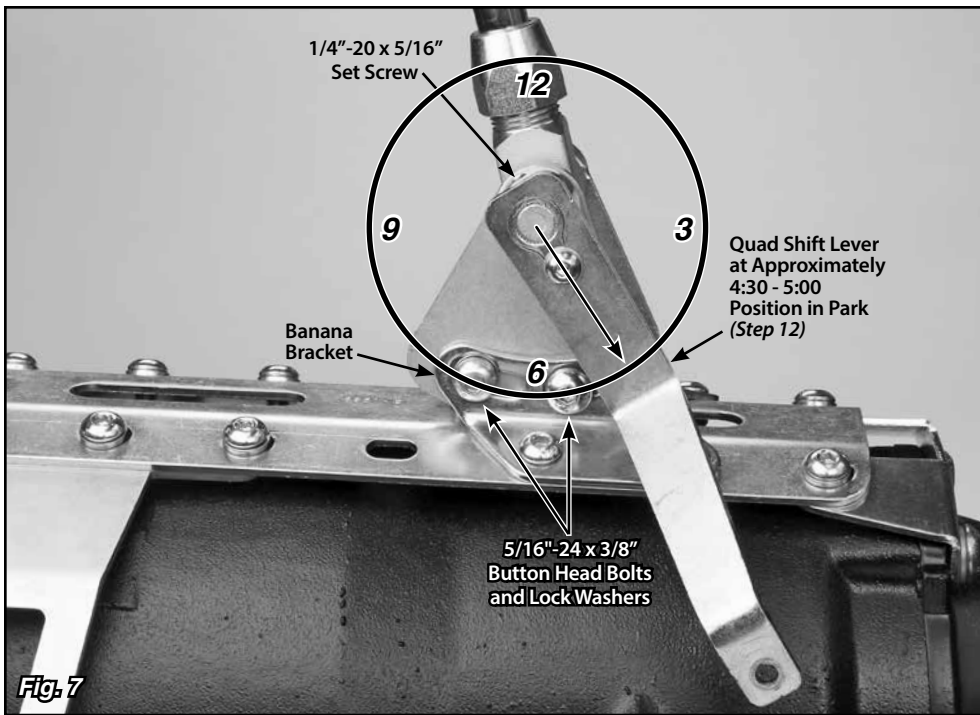

Fig. 7
Step 11: Make sure the two 5/16"-24 x 3/8" button head bolts and lock washers that attach the driver side banana bracket to the shifter assembly (in the curved, slotted holes) are tight. Before tightening the shifter lever through all the gear positions. Make sure the shifter lever and knob will not come in contact with the dash or the seat. The shifter assembly can be tilted forward or backward if needed by loosening the 5/16"-24 x 3/8" button head bolts and lock washers in the curved, slotted holes in the driver side banana bracket. **Fig. 7**
Step 12: Make sure the shifter lever is in the Park position. Temporarily place the quad shift lever in position on the quad lever bushing as shown in **Fig. 7**. Check for interference with the vehicle floor. With the shifter lever in Park, the quad shift lever should be pointing towards approximately the 4:30 - 5:00 position.
Step 13: Install the trans gear lever onto the transmission and secure with your original nut. Place the trans gear lever in the Park position with the top of the lever pointing up and slightly towards the rear of the transmission, at about the 12:30 - 1:00 position. **Fig. 7**